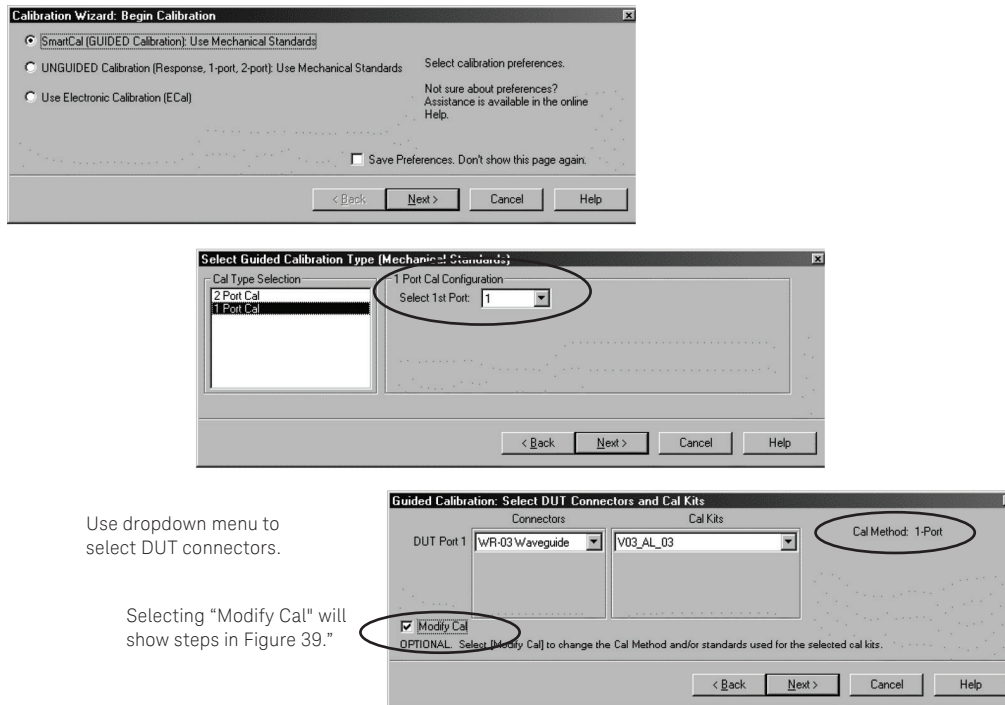
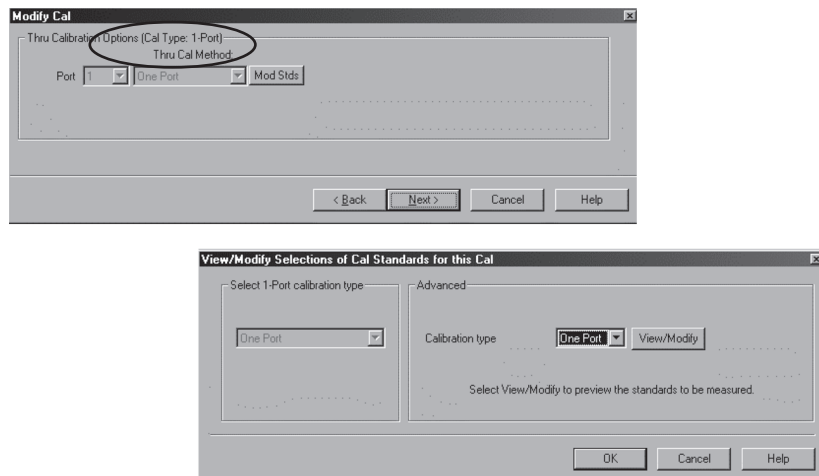

Figure 39. Select SmartCal and DUT connectors.
Figure 40. Viewing **Modify Cal** displays.
2. Select **SmartCal (GUIDED Calibration)**, then click **Next>** (Figure 39, top)
3. Select **Cal Type**. Notice on the right that you can choose either Port 1 or Port 2 as the test port for the 1-port calibration. Then, click **Next>** (Figure 39, middle)
4. Use dropdown menu and then the scroll bar to select the DUT connectors (Figure 39, bottom). Also, use dropdown menu to select the available calibration kit based on the selected DUT connectors. Notice, the Cal Method here is simply 1-Port. Plus, if “Modify Cal” is not selected, then steps shown in Figure 40 will be skipped. Click **Next>**
5. Having selected “Modify Cal” allows you to look at the screens shown in Figure 40. However, in the case of 1-port calibrations, you are limited to SOL calibration only. Thus, clicking on “Modify Cal” does not offer you additional selection. Your Cal Type remains as One Port.